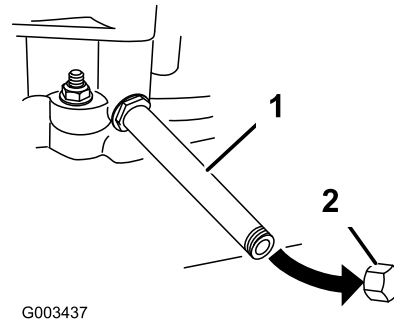

Figure 26
5. Place a pan below the drain pipe. Remove the cap on the drain pipe and allow oil to drain (Figure 26).